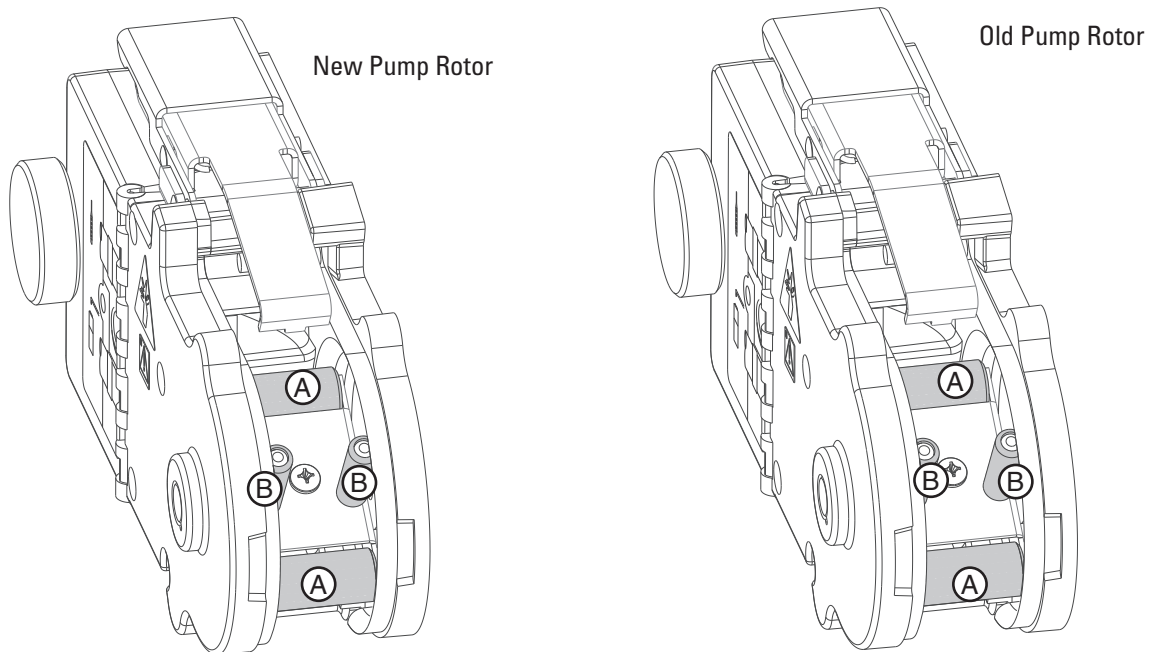

Figure 5-2 Rollers (A) and guides (B) on the pump rotor
- b. **Pump Rotor** – Look for debris build-up on the pump roller, guide surfaces, and pump band (not shown) (Figure 5-2). Clean when needed (Section 5.1.3).